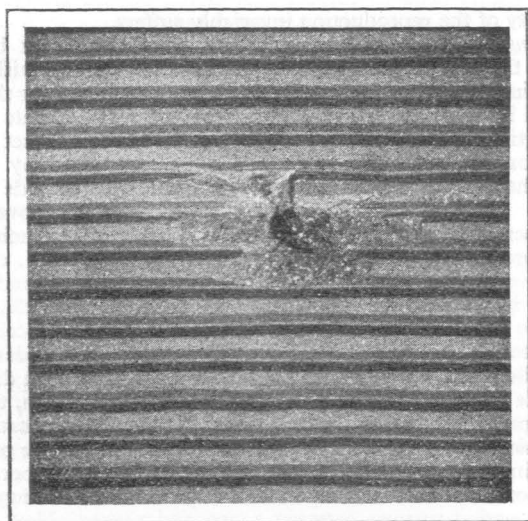

FIG. 39.—See Blisters.
14. *Blisters* are due to the liberation of gas, usually water-vapour, during manufacture. The generation of vapour is a normal consequence of the heat treatment of many thermoplastic compositions, and care has to be taken to prevent it from affecting the product in any way. Occasionally the gas pressure may rise, by chance at a point where the moulding stock is not well mixed. One record of a popular cheap make offered over the counter in Bloomsbury a few weeks ago had an eruption as large as a three-penny piece on its playing surface. Unfortunately it could not be secured for this review, but the one illustrated in Figures 39 and 40 is now in the Editor's hands. The comparison made in Figures 40 (a) and (b) is singularly fortunate since it shows what happens when the needle passes over such a blister for the first time.